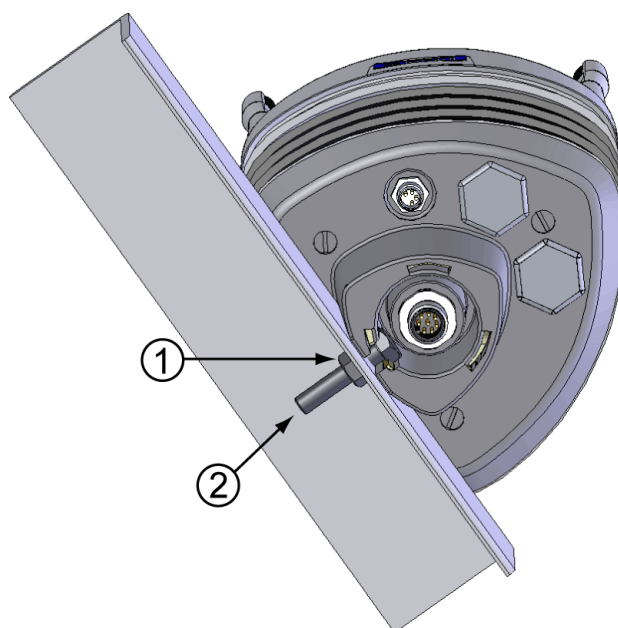
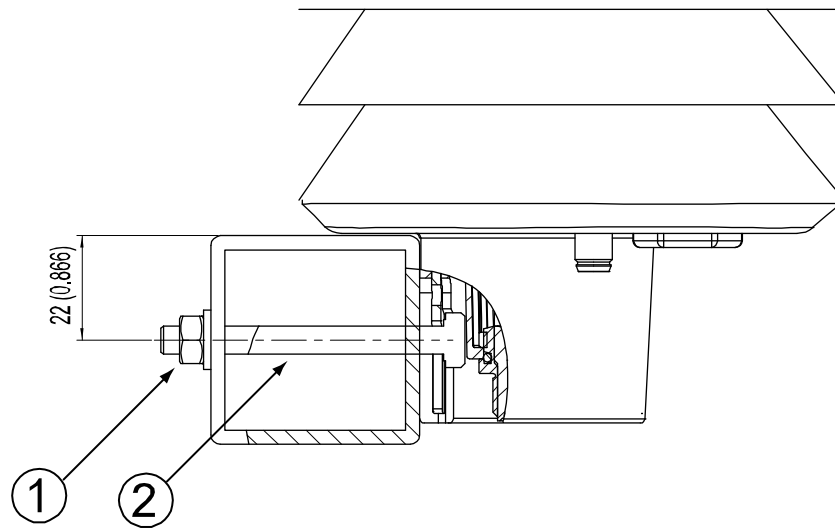

Figure 14 Mounting WXT520 to Cross Arm (L-Profile)
Figure 15 Mounting Bolt Location in Cross Arm
3. Mount the transmitter into the cross arm by using a mounting bolt (M6 DIN933) and a nut, see Figure 14 on page 37 and Figure 15 on page 38.
The following numbers refer to Figure 14 on page 37:
The following numbers refer to Figure 15 on page 38: